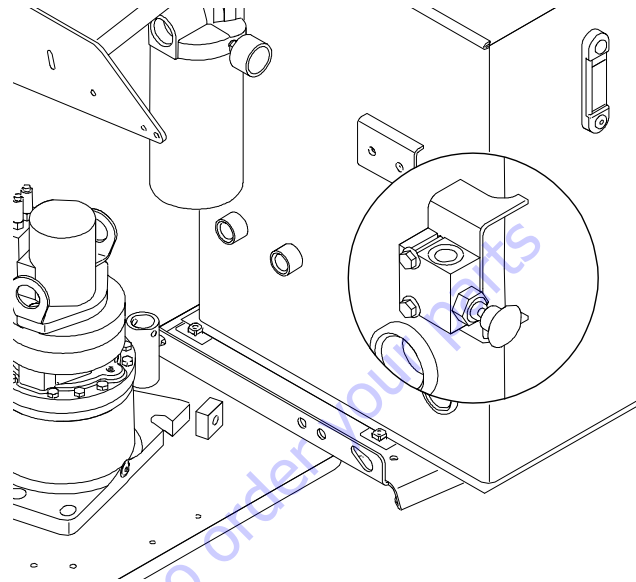

Figure 4-4. Releveling Valve
A pull type control valve allows the operator to adjust the upright level cylinder if the upright is not 90° (vertical) relative to the chassis (Refer to Figure 4-4.). This valve is located in the tank compartment area.
3. Pull and hold the red relevel knob located next to the main control valve. Refer to (See Figure 4-4.)